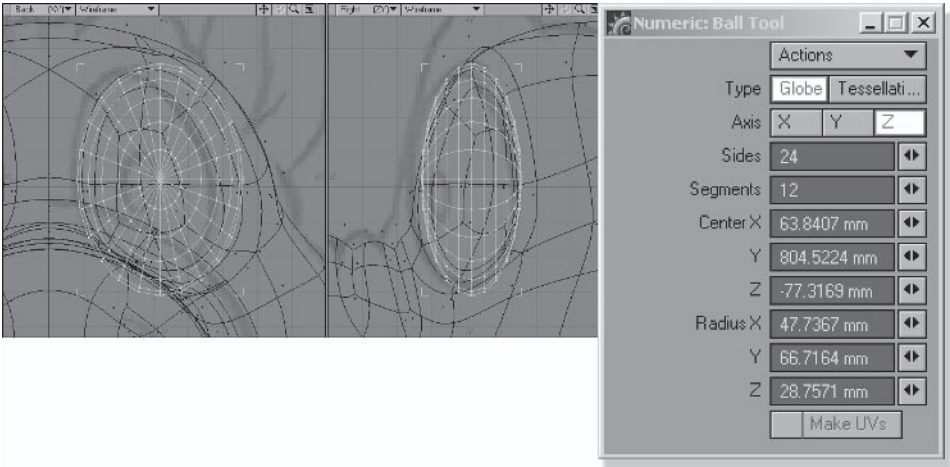

Figure 5.3-76. Creating the eyeball template.
- 1. Select a new layer and place the main layer in the background. Create a ball using the settings in Figure 5.3-76.